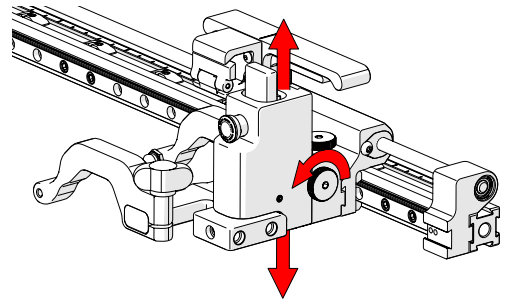

Fig. 36 - Vertical adjustment
2. The vertical adjustment knob (*Fig. 36*) allows height adjustment of the heavy duty vertical probe holder. This adjustment also controls the probe holder's spring tension.